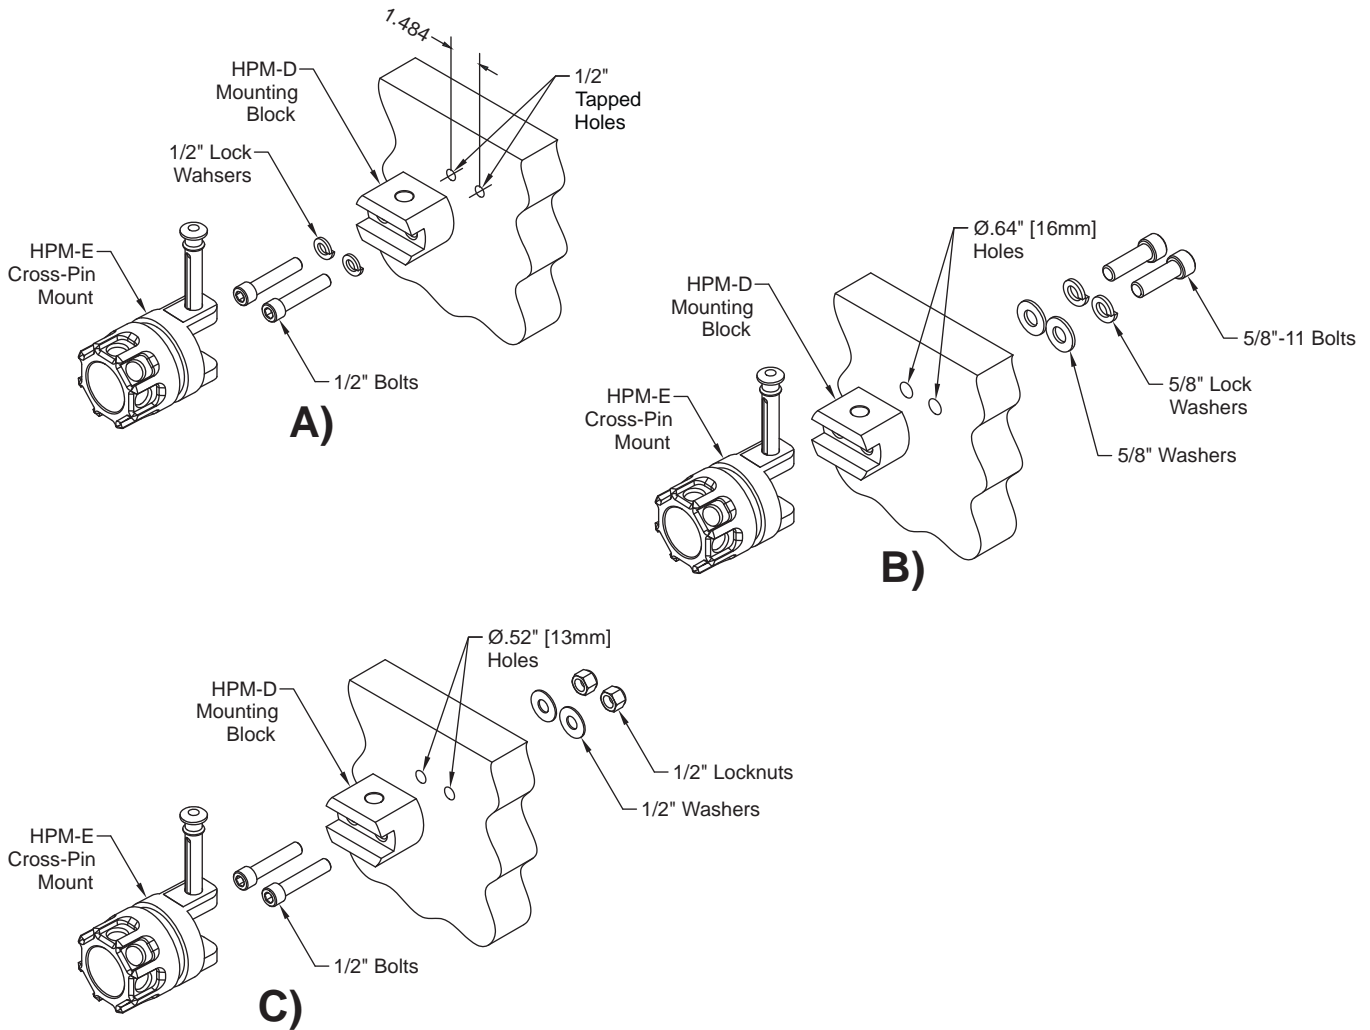

Figure 2.14 Mounting block installation options
A mounting block can be used as a fixed mount, for flowing, or as a storage bracket for the Hemisphere monitor. This mount can be used in locations where the back side of the mounting surface is inaccessible. It can be bolted from the front of a sufficiently rigid surface by adding two 1/2" [13mm] tapped holes (See figure 2.14 a.) It can also be bolted from the back side of a surface, by drilling two (2) .64" [16mm] clearance holes (See figure 2.14 b.) and screwing two (2) 5/8"-11 bolts into the tapped holes on the bracket. A third option would be to drill two (2) .52" holes, and bolting the mounting block from the front side with 1/2" bolts, washers, and locknuts (See figure 2.14 c.)
A cross-pin mount can be added to a mounting block to create a monitor-ready attachment location (See Figure 2.14.) It is the same cross-pin mount that is included with the I-beam clamp/2" hitch mount, with the same detented cross-pin, and can be ordered as a spare or replacement.